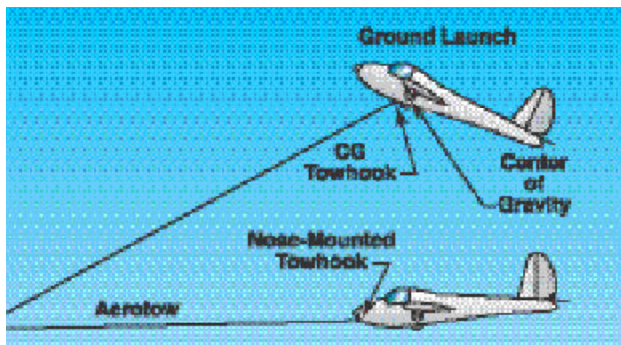

Figure 2-6. Towhook locations.
The glider may have a towhook located on or under the nose and/or under the center of gravity (CG), near the main landing gear. The forward towhook is used for aerotow. The CG hook is used for ground launch. If the glider has only a CG hook, it may be approved for aerotow in accordance with the Glider Flight Manual/Pilot's Operating Handbook. [Figure 2-6]